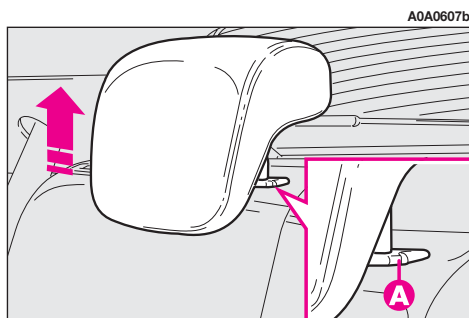

fig. 21
— raise the headrest to the highest position, press both buttons (**A-fig. 21**) at the side of the two supports, then remove the headrest pulling them upwards;
To use the headrest, raise it from the (2) "non use position" and reach the (1) "all removed" position. To restore the "non use position", press button (A-fig. 21) and push the headrest downwards.